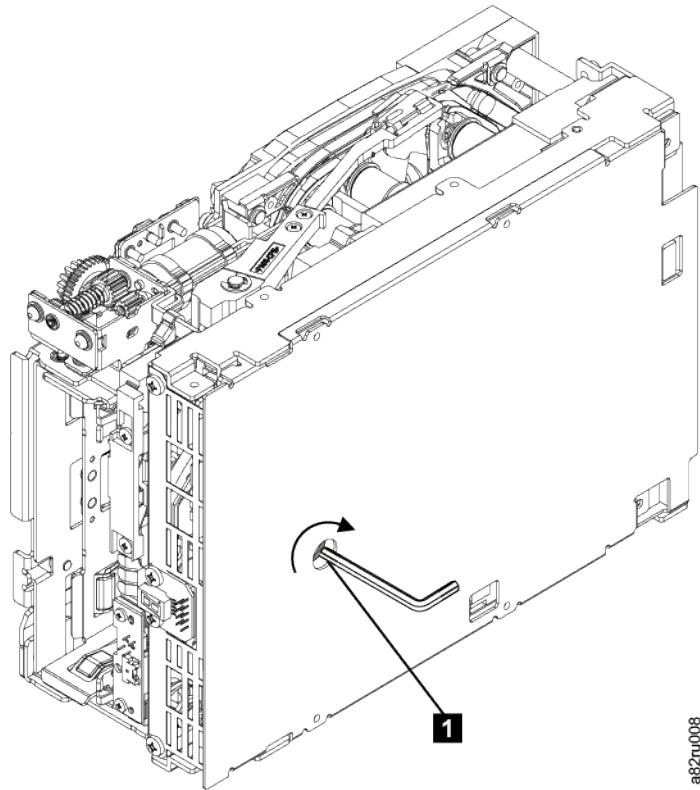

Figure 120. The hex wrench rewinds tape into cartridge
6. From the bottom of the drive, locate the access hole (1 in Figure 120 on page 251) in the bottom cover. Insert a 2.5 mm offset hex wrench through the bottom cover access hole and into the reel motor axle. Begin spooling tape back into the cartridge by turning the hex wrench clockwise.